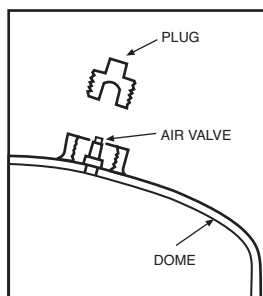

Figure 1
3. Remove air valve core to bleed remaining air charge (Figure 1).